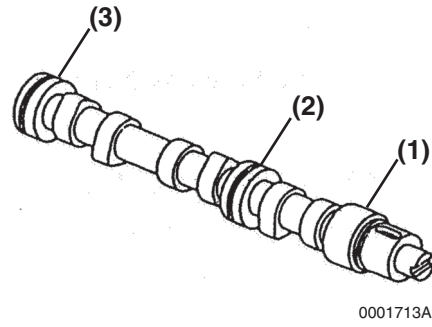

Figure 6-123
4. Measure the diameter of the gear end (**Figure 6-123, (1)**), intermediate (**Figure 6-123, (2)**), and flywheel end (**Figure 6-123, (3)**) bearing journals. See *Camshaft* on page 6-10 for specifications.